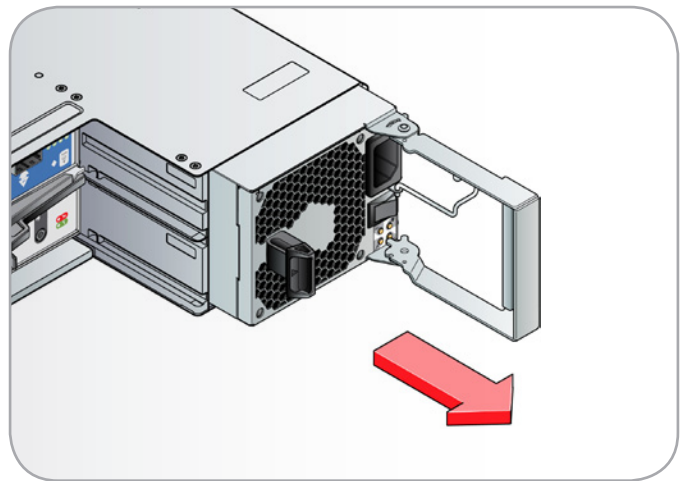

Fig. 72 - Removing the Power Cooling Module (2)
3. Grip the handle and withdraw the PCM from the enclosure bay (Fig. 72).